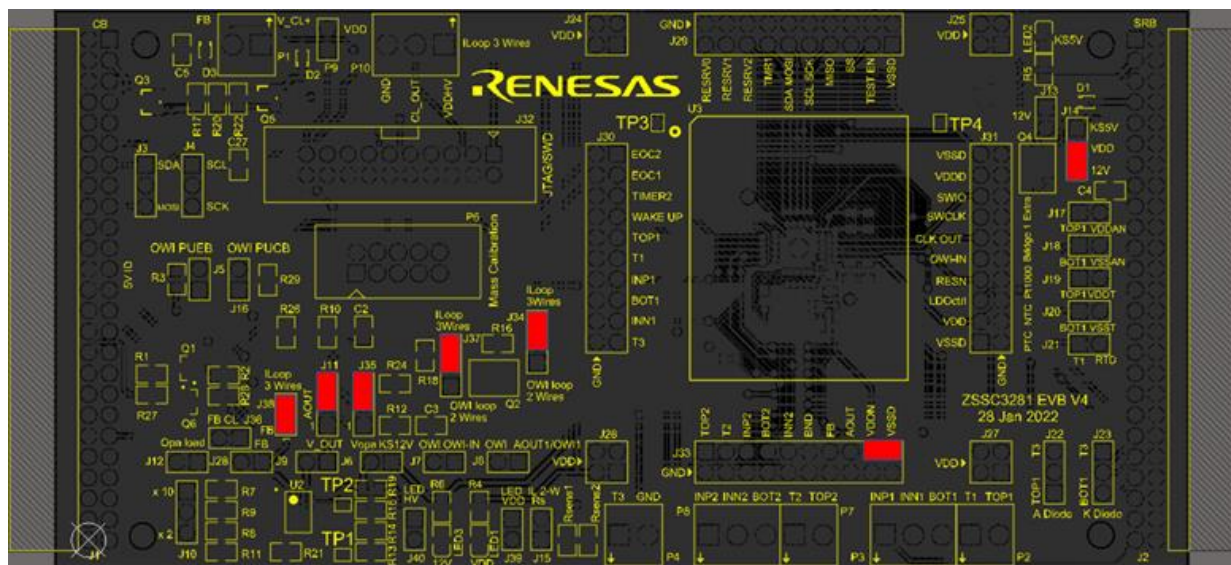

Figure 136. 3-Wire-Current-Loop Jumper Setting
- Ensure that VDDN is shorted to GND (J33) as displayed in Figure 136.